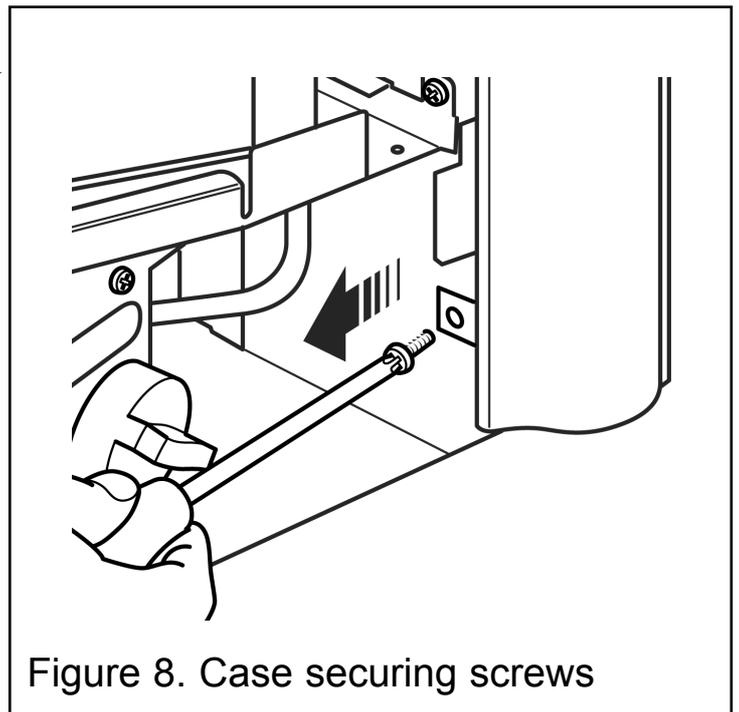

Figure 8. Case securing screws
2. Remove the two surround securing screws (See figure 8). Remove the outer surround by gently pulling the base of the outer surround forward whilst lifting clear of the case support bracket.